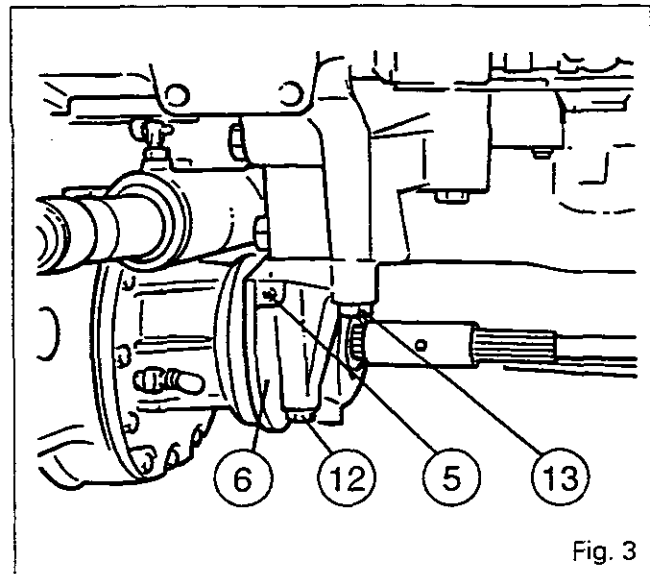

Fig. 3
7. Remove the bolts (12) and (13). Remove the front axle with the bearing (6) (Fig. 3).
8. Dismount the bearing from the front axle. Remove the washer (7) and the dust guard (8).